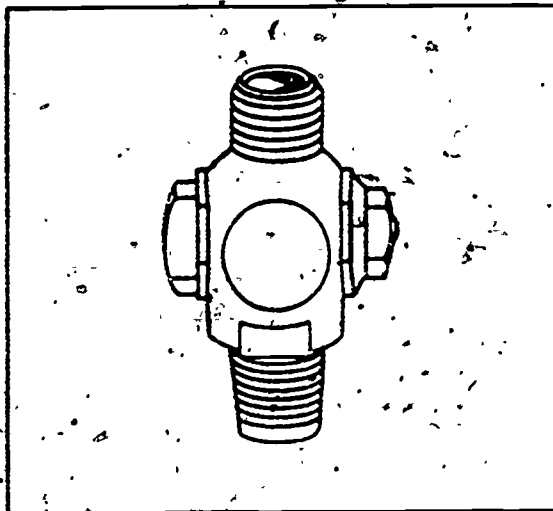

Figure 1-17 Corporation stop.
**Corporation stop.** The corporation stop, shown in figure 1-17, is a valve which is installed in the street water main and which serves as a takeoff for the building water supply system. It is installed with an automatic tapping machine when the pressure is on in the main. The corporation stop cannot be used as a shutoff after it is installed because it is covered with soil.